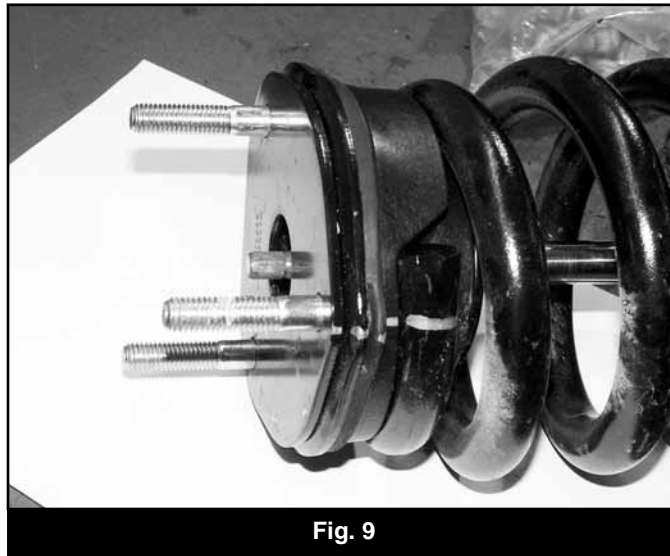

Fig. 9
15. Install three 10mm x 60mm bolt in the mounting holes of the strut cap and top plate (Fig 9). Reinstall the rubber isolator on the cap to retain the bolts. Note: Do not use washers on the bolts.